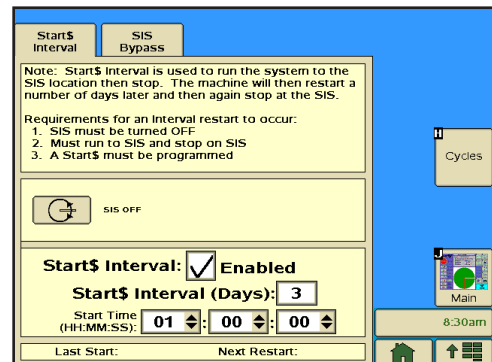

Figure 176-1
Daily OPS cycle allows the operator to run complete irrigation cycles at specified intervals in days. For example, the operator may want to irrigate every 3 days or 5 days. This feature uses the START\$, STOP\$, and CYCLE\$ programs. Refer to Figure 176-1.
1. Push **Prog** and **Cycles** to view the Cycles screen. Refer to Figure 176-1.